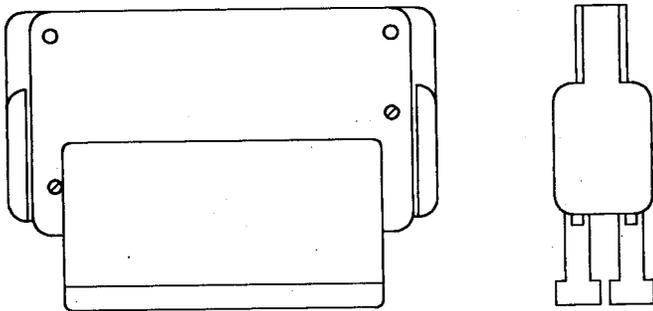

Fig. 7—808A Connector
2.09 808A: The 808A connector (Fig. 7) consists of two printed wiring boards and two board mounting blocks, attached together by four tapping screws. This connector may be used as a replacement printed wiring board assembly for the 246 adapter.